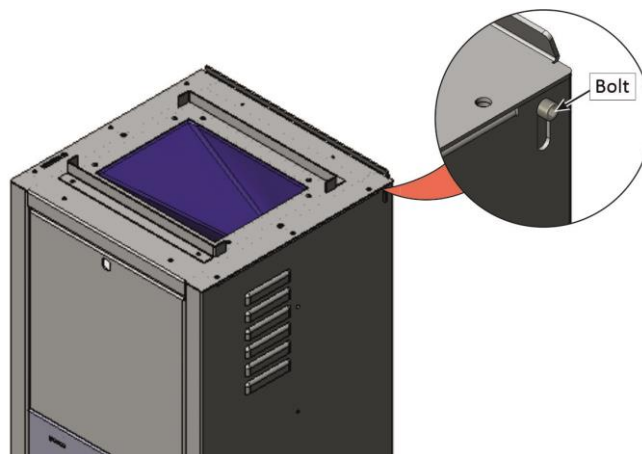

Figure 5 – Remove The Bolts
1. Remove the two pivot bolts, located at the top of the back Side panels of the sampler, which will act as the pivot points for the SSI inlet assembly, refer to Figure 5.